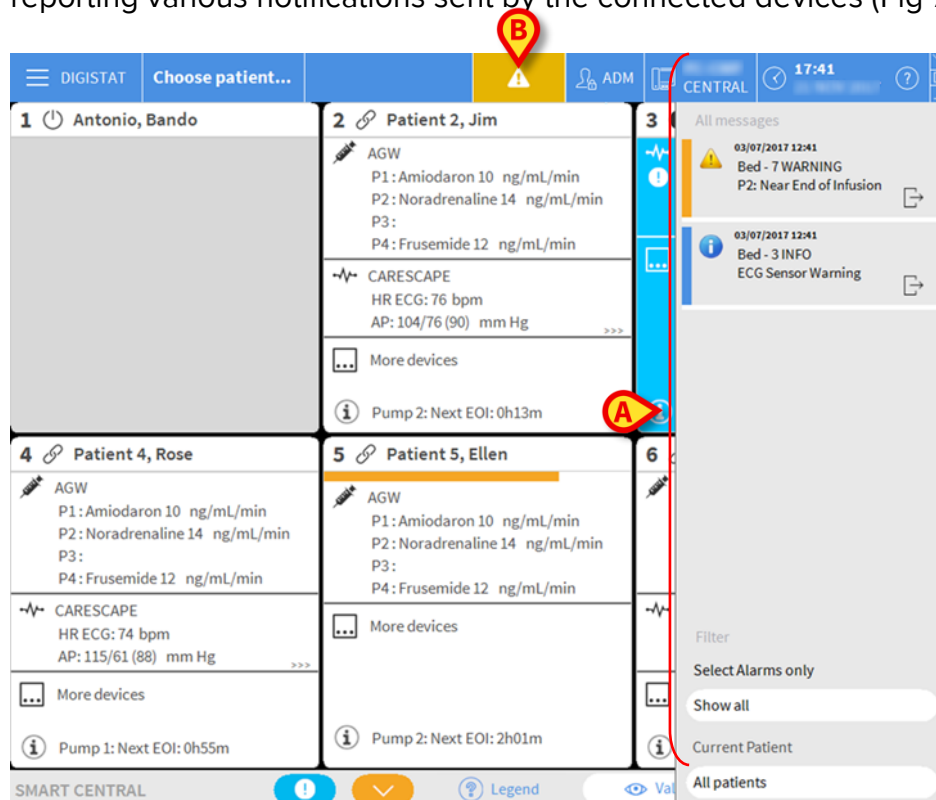

Fig 76
A notification area is displayed on the right of the Digistat Smart Central screen, reporting various notifications sent by the connected devices (Fig 76 **A**).
- Only visible after user click on the Notification button on Control Bar (Fig 76 **B**).